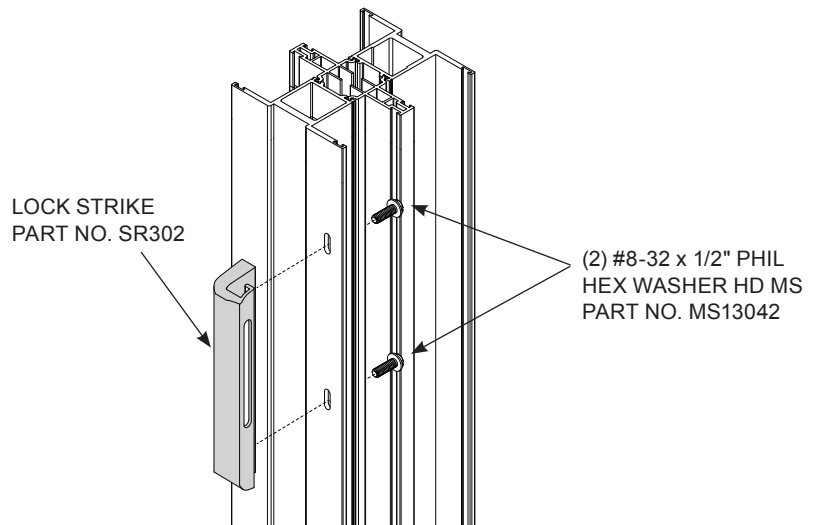

FIG. 38
4. Install with Part No. MS13042 (2) #8-32 x 1/2" Phil Hex Washer HD MS fasteners. (FIG. 38)